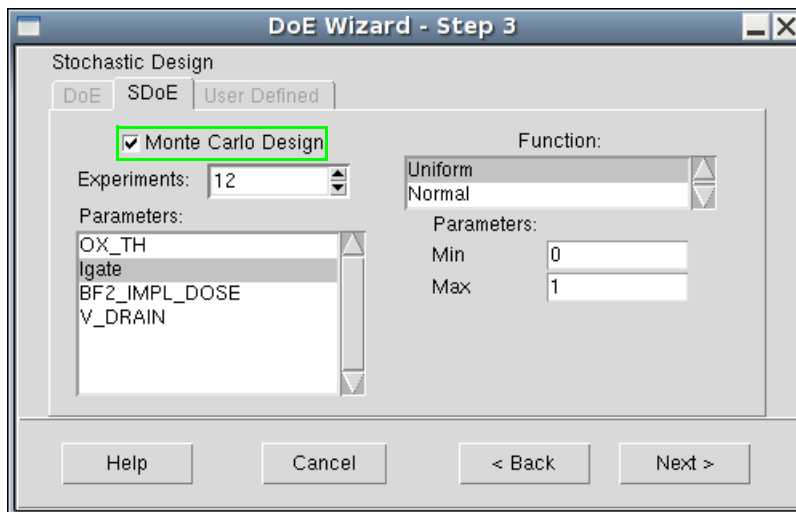

Figure 49 DoE Wizard – Step 3 for Monte Carlo stochastic design
1. Select the **Monte Carlo Design** option (see Figure 49).